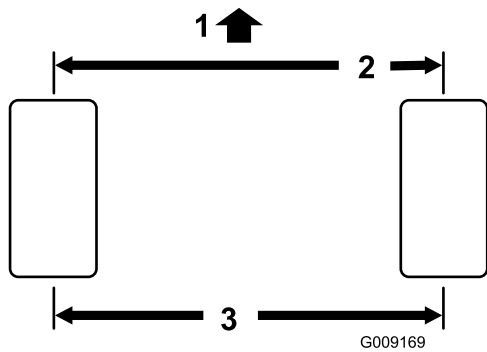

Figure 70
2. Measure the center-to-center distance (at axle height) at the front and rear of the steering tires (Figure 70).